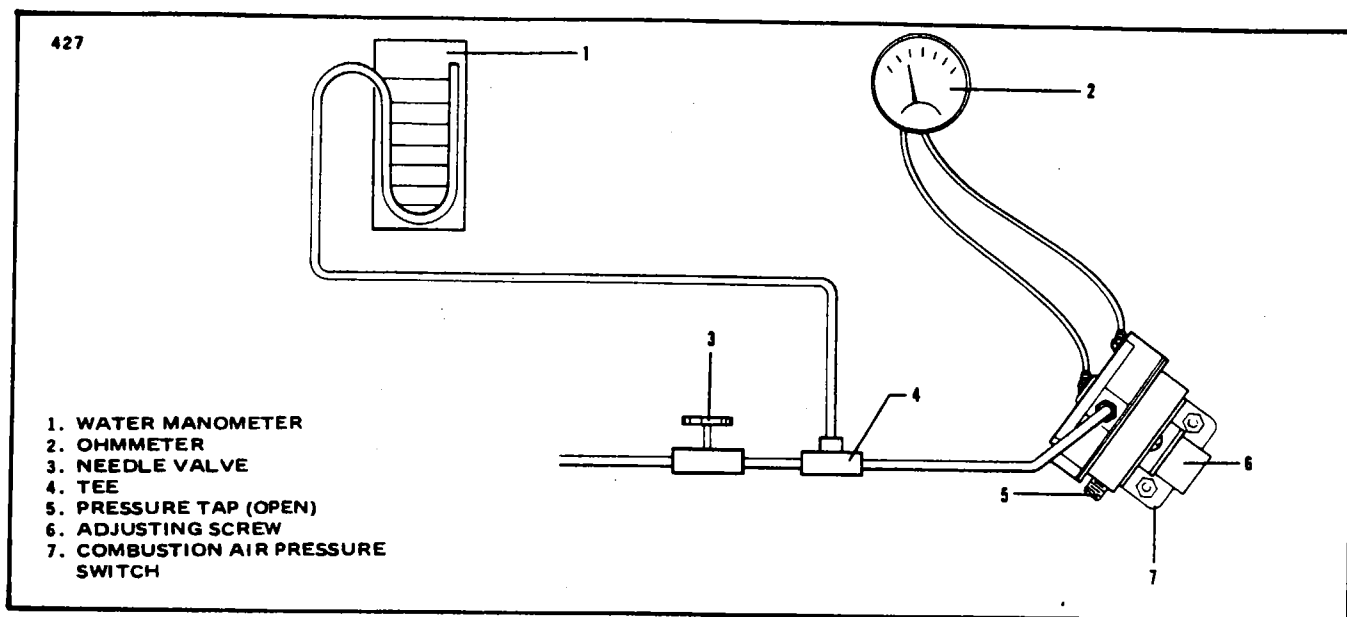

Figure 13-25. Test Setup for Combustion Air Pressure Switch
d. The combustion air pressure switch and the combustion air blower switch installed on later systems must respond to delicate pressure changes and should always be checked and/or replaced at overhaul. (Refer to Paragraph 13-45, Steps c and d, and Figure 13-25 or 13-26.)
1. Connect an adjustable air pressure line that can be controlled in a range of zero to 5.0 inches of water to the switch opening with a water manometer and needle valve in the line ahead of switch. Switch must be tested in 45 degree position as shown in Figure 13-25.